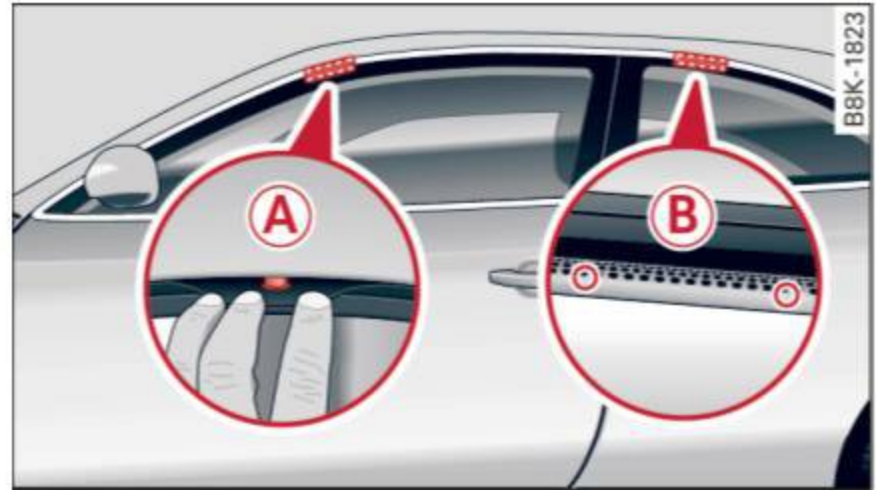

Fig. 65 Roof rack attachment points
- When installing the roof rack, make sure it is only mounted on the designated locations on the roof ⇒ fig. 65.
- Only mount the roof rack on the designated locations on the roof ⇒ *fig. 65*.